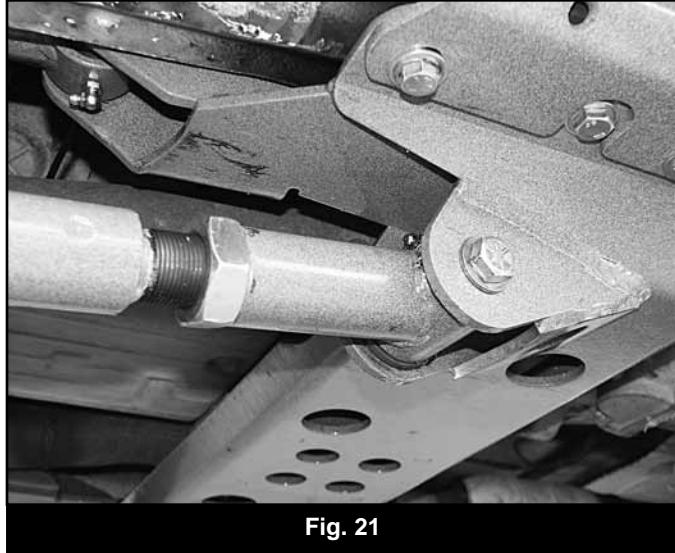

Fig. 21
55. Install the adjustable end of the lower control arms into the new lower control arm pockets in the crossmember (Fig 21). Loosely fasten the arms with 9/16" x 4-1/2" bolts, nuts and 9/16" SAE washers (BP 715).